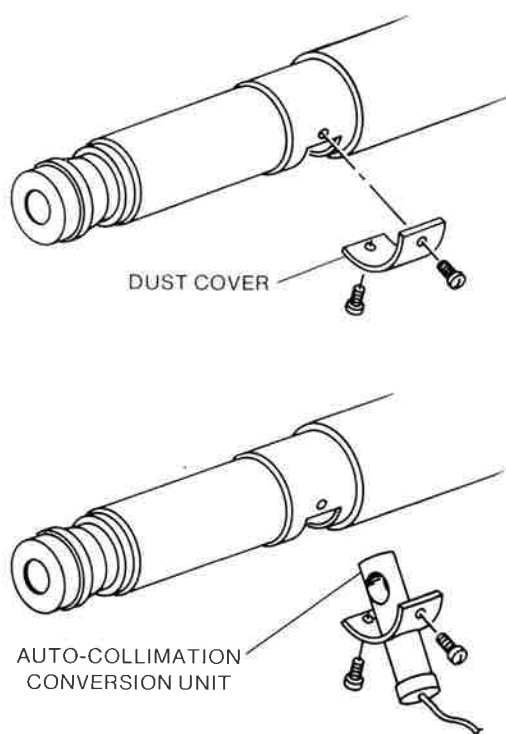

Figure A-4. Installation Location for 71 1211 Auto-Collimation Conversion Unit
1. Locate the dust cover plate on the underside of the telescope tube just forward of the eyepiece. (See Figure A-4.)